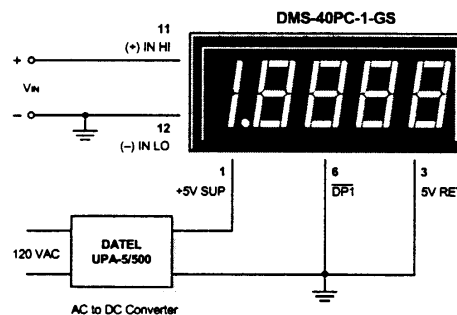

Figure 2. Single-Ended Input Configuration
- 1. Single-Ended Input Configurations:** The DMS-40PC can measure single-ended signals with either positive or negative polarities. True single-ended inputs always have one of their two terminals at the same potential as the DMS-40PC's 5V RETURN (pin 3). Single-ended inputs are usually derived from power supplies that have a common ground with the meter's +5V supply. Figure 2 shows the recommended connections to be used with this type of input. Pin 12, (–) INPUT LO, is shown directly tied to ground. This connection to ground must be a separate wire or pc-board trace originating at V_M 's negative terminal. This hook-up will normally eliminate display instabilities and errors caused by ground-loop currents which can occur if (–) INPUT LO is tied to ground at, or near, pin 3.